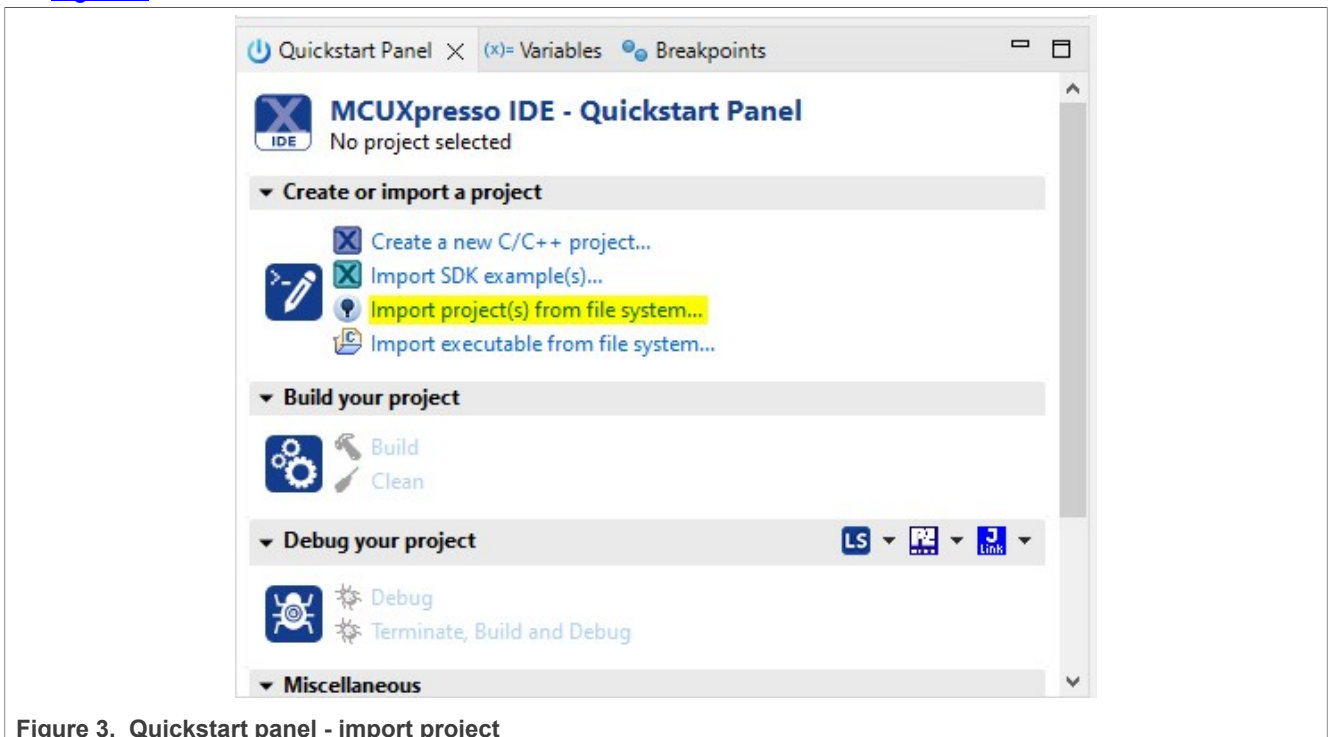

Figure 3. Quickstart panel - import project
2. Import the project to MCUXpresso IDE - Quickstart Panel. Click **Import project(s) from file system...**, see Figure 3.